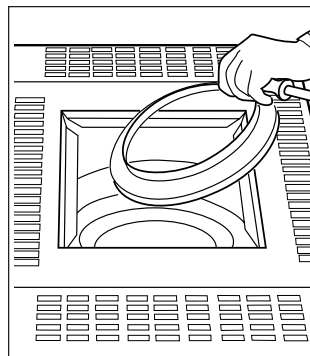

Figure 4. Flue transition ring.
- d. Disengage the flue transition ring from the stack extension and place it on top of the collector assembly as shown in Figure 4.